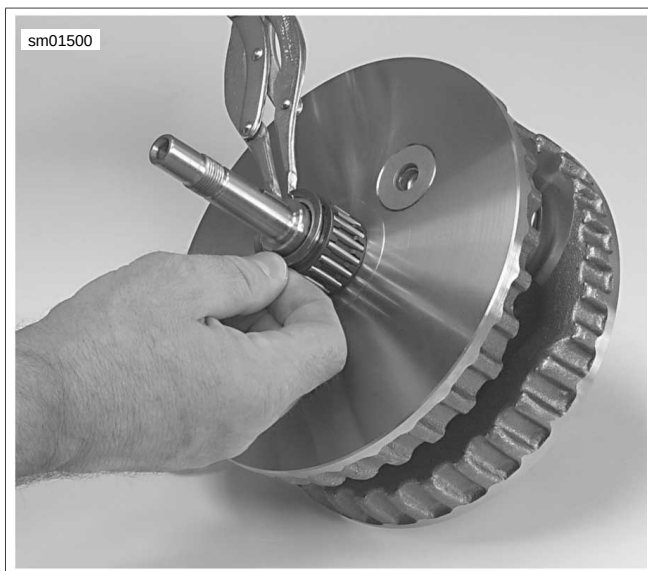
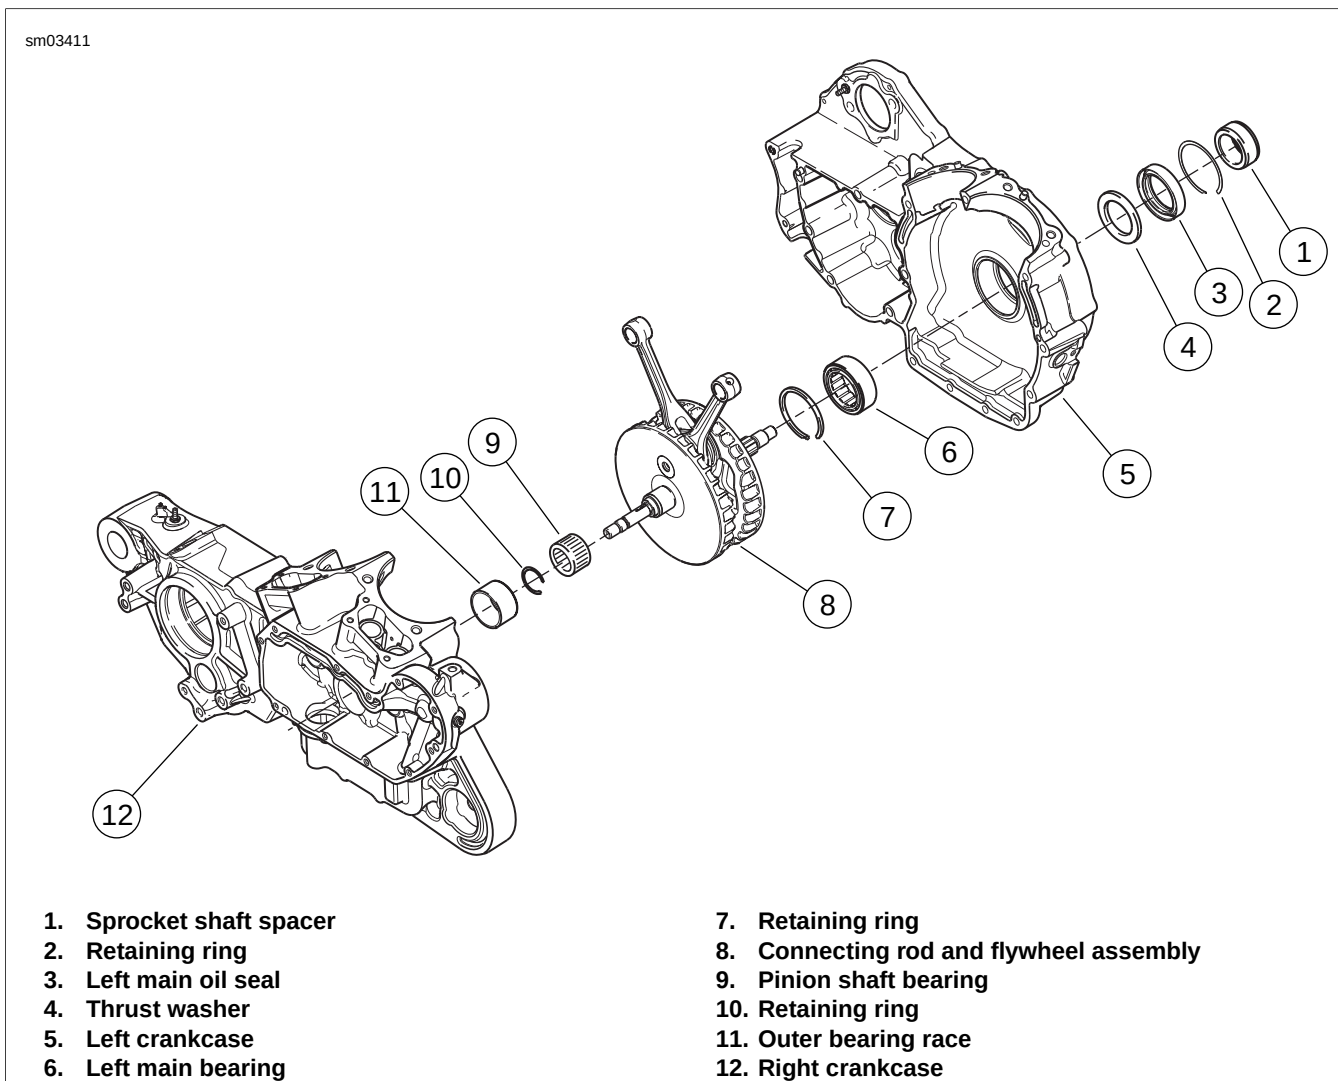
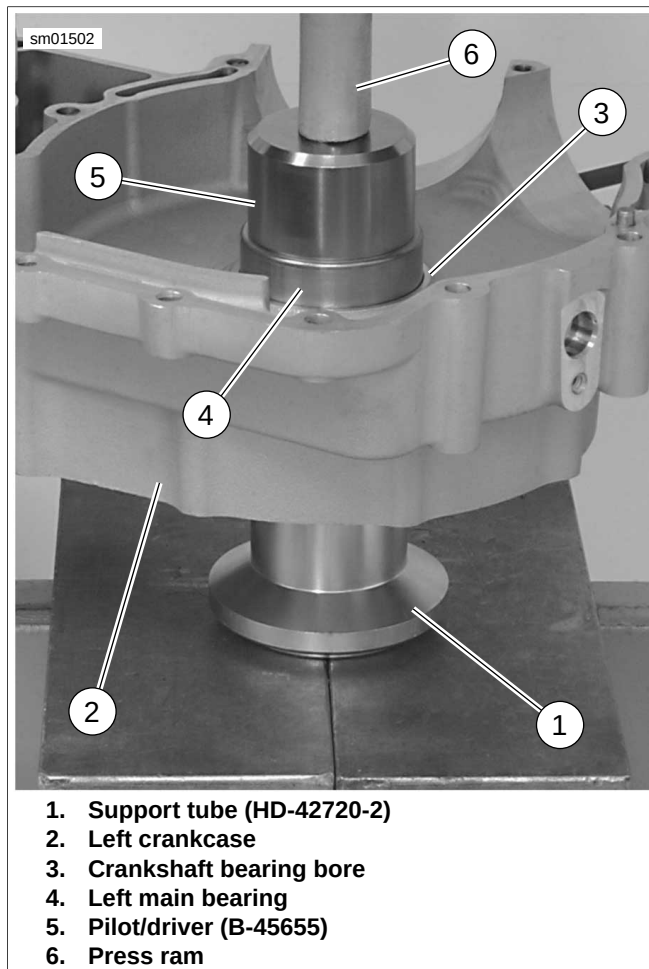
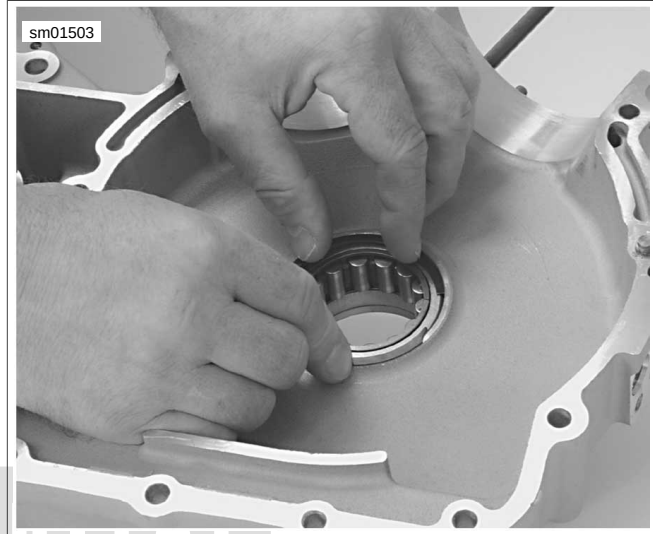

Figure 3-79. Installing Pinion Shaft Bearing and Retaining Ring
Figure 3-80. Crankcase and Flywheel Assembly (typical; XL model shown)
Figure 3-81. Installing Left Main Bearing in Crankcase
Figure 3-82. Installing Left Main Bearing Retaining Ring
- See Figure 3-79 and Figure 3-80. Lubricate pinion shaft and pinion shaft bearing with clean Harley-Davidson 20W50 engine oil.
- Using TRANSMISSION SHAFT RETAINING RING PLIERS (Part No. J-5586-A), install **new** retaining ring (10) in groove of pinion shaft bearing inner race. Make sure retaining ring is fully seated in groove.
1. See Figure 3-81. Using CRANKCASE BEARING REMOVER/INSTALLER (Part No. B-45655) and CRANKCASE BEARING REMOVER/INSTALLER BASE (Part No. HD-42720-2), press left main bearing into the left crankcase.
- a. Place support tube (1) on press bed with recessed cup end facing up.
- b. With the inboard side of the left crankcase (2) facing upward, position crankshaft bearing bore (3) over support tube.
- c. Place left main bearing (4) over bearing bore. Insert pilot/driver (5) through left main bearing, through crankshaft bearing bore and into support tube.
- d. Apply pressure with press ram (6) until left main bearing bottoms out in bearing bore.
2. See Figure 3-82. See Figure 3-80. Install **new** retaining ring (7) from the inside of the left crankcase.
9. See Figure 3-80. Install retaining ring (2) into groove in sprocket shaft bearing bore.